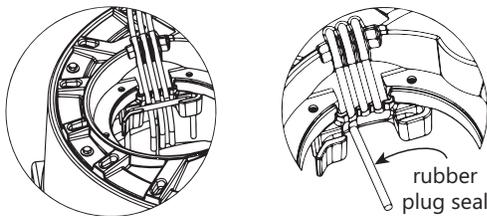

Figure 6. Proper Cord Sealing Behind QuickTree Rod
**Re-inserting the QuickTree:** After service or inspection of the floats, re-insert the QuickTree into its holder. It is important that cords from the pump motors and float switch, and optional alarm float are properly sealed in the specially designed rubber sealing channels under the access cover. Proper sealing is required to keep sewer gas from leaking from the system. Place the cords securely in the rubber channels as shown in Figure 6 [left], being careful to remove excessive cord "slack" from inside the system.
**IMPORTANT:** Three cord channels are provided. For systems without the alarm option, only two channels are used and the third must be "plugged" with an attached rubber plug seal. See Figure 6 [right]. If the alarm cord is present, all three channels will be used. All rubber cover gaskets are permanently attached and do not require replacement.